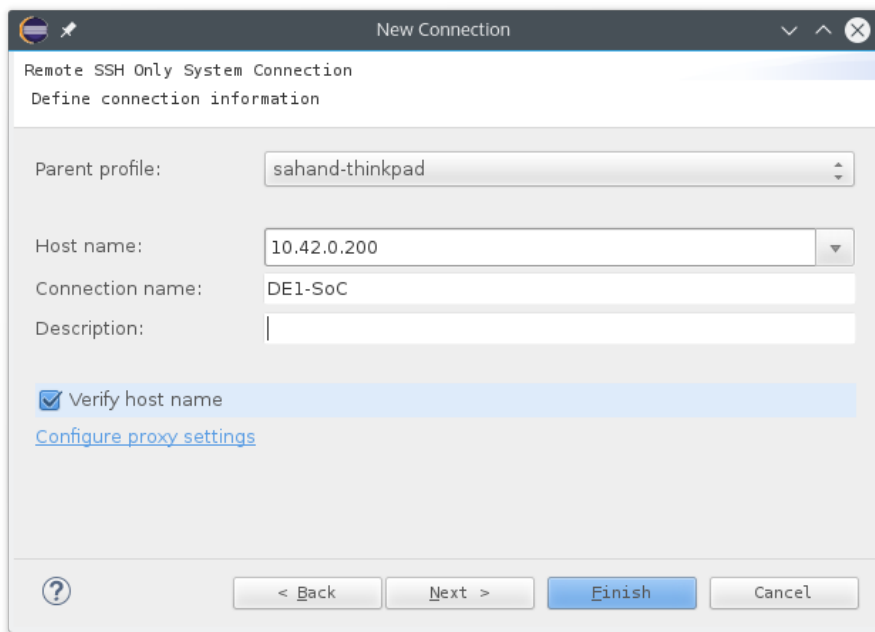

Figure 13-12. New SSH Only Connection
77. Enter “DE1-SoC” as the “Connection name”. You should have something similar to Figure 13-12.